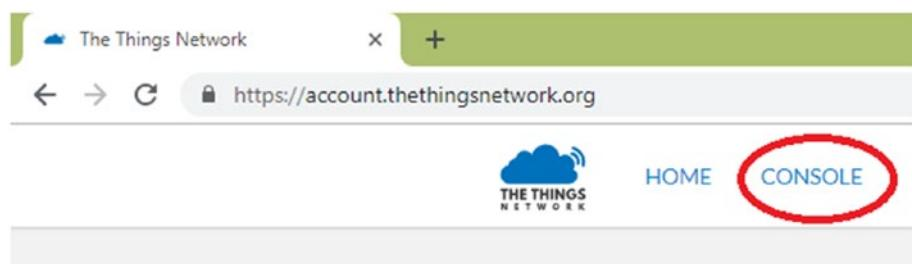

Figure 8-12. Accessing the Things Network Console
2. After you successfully logged in, click the Console link (Figure 8-12).